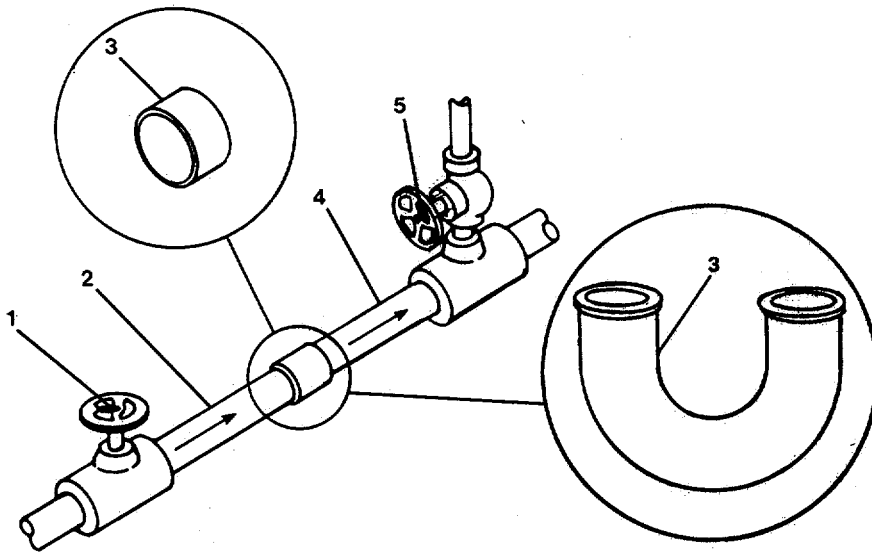

FIGURE 3-205. *Repair Welded Fittings (Typical).*
**3-217. Replace/Repair Welded Fittings. (Figure 3-205)**